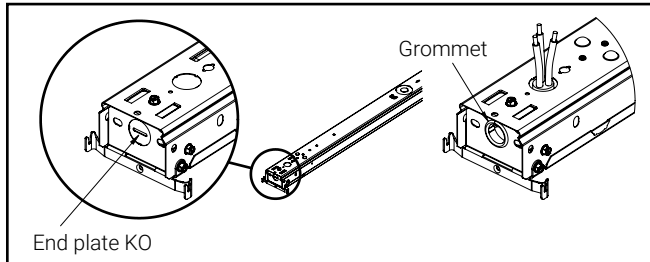

Figure 20
1. Punch out the KO in end plate, insert the grommet into the KO. Feed the sensor wire through the KO and connect to sensor. (Figure 20)